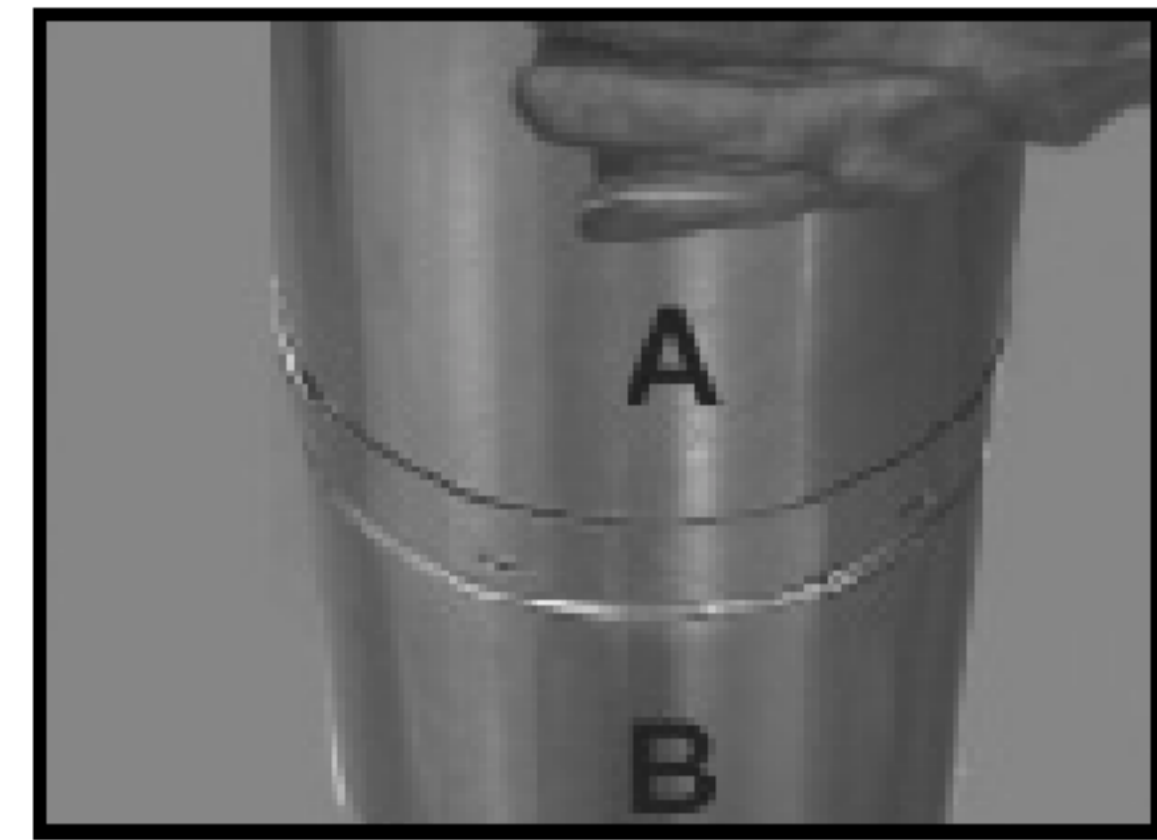

Figure 33
- c. Once both inner and outer flues are started, press Section "A" into Section "B" firmly until all lances have snapped into place. Tug slightly on Section "A" to confirm it has completely locked into place. See Figure 33.